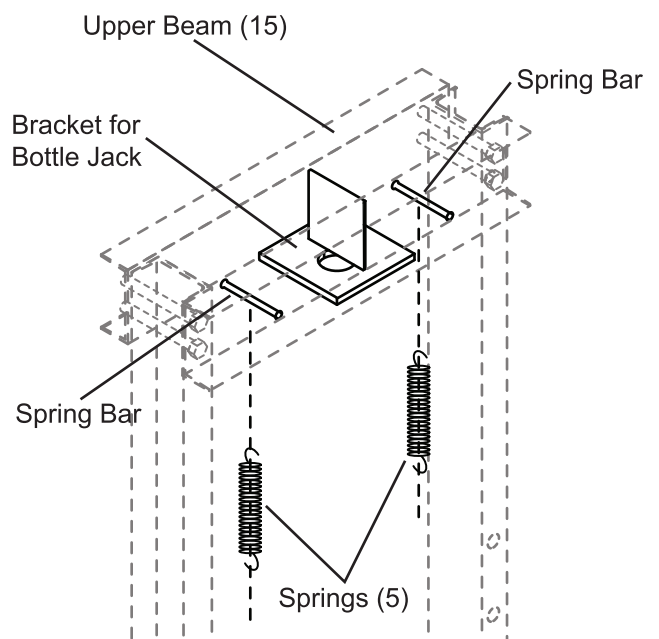

Figure 7
- Hang the Springs (5) on the spring bars located in the Upper Beam (15). See Figure 7.